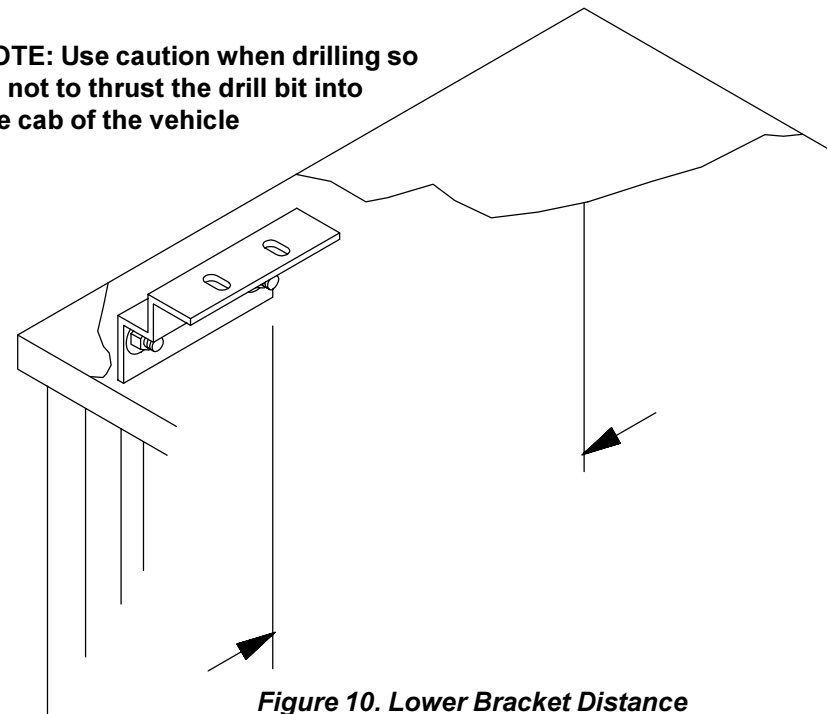

Figure 10. Lower Bracket Distance
2. Front Leg Support Installation - With the Leg Supports loosely mounted at the rear, measure the distance from the inside of the service body to the Lower Bracket (see Figure 10.). Use this dimension to position the Leg Support in the service body at the front. Repeat the marking, drilling and fastening procedure shown in Step 1, Option 1.